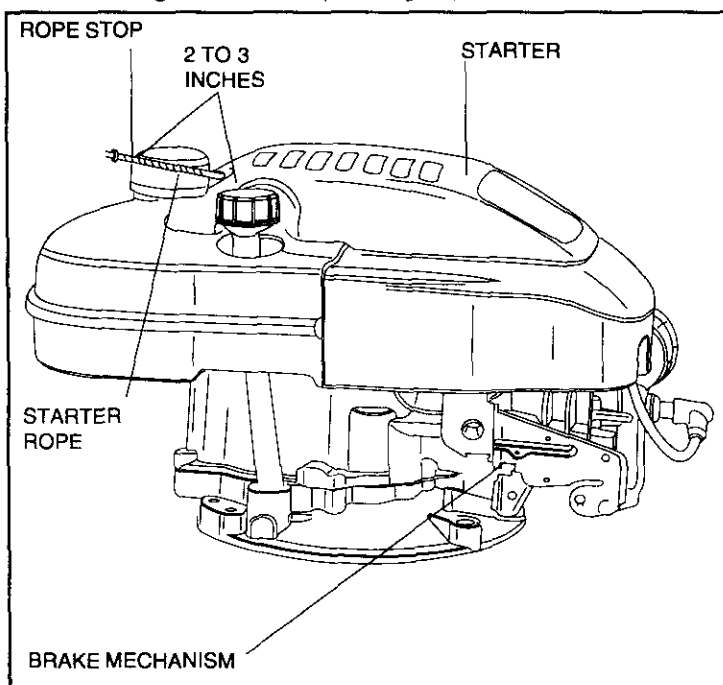
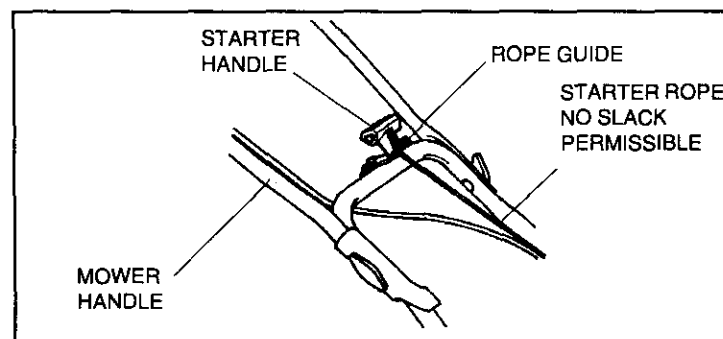

Figure 2
Figure 4
② INSTALL ENGINE BRAKE CABLE AND STARTER ROPE: BRAKE CABLE (see Figure 2):
- C. Slide rope stop (see Figure 2) onto starter rope and feed starter rope through rope guide on mower handle (see Figure 4).
- E. With starter handle resting on rope guide (see Figure 4), check starter rope for slack. If there is any slack, pull more starter rope through starter handle and relocate left hand knot to eliminate slack.
- H. Position rope stop 2 to 3 inches from starter (see Figure 2) and fasten it to starter rope by gripping it with pliers and forcing staple through starter rope until staple is even with outside of rope stop.
C. Grasp starter handle (see Figure 4) and pull rope out, slowly, until it pulls slightly harder. Let rope rewind slowly. Then pull rope with a rapid full arm stroke. Let rope rewind **SLOWLY**. Do not let starter handle snap back against rope guide (see Figure 4).